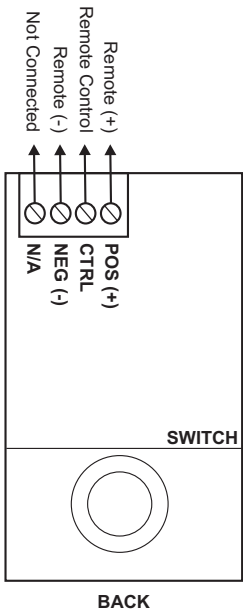

Figure 2
- 2. Wire as shown in Figure 2.